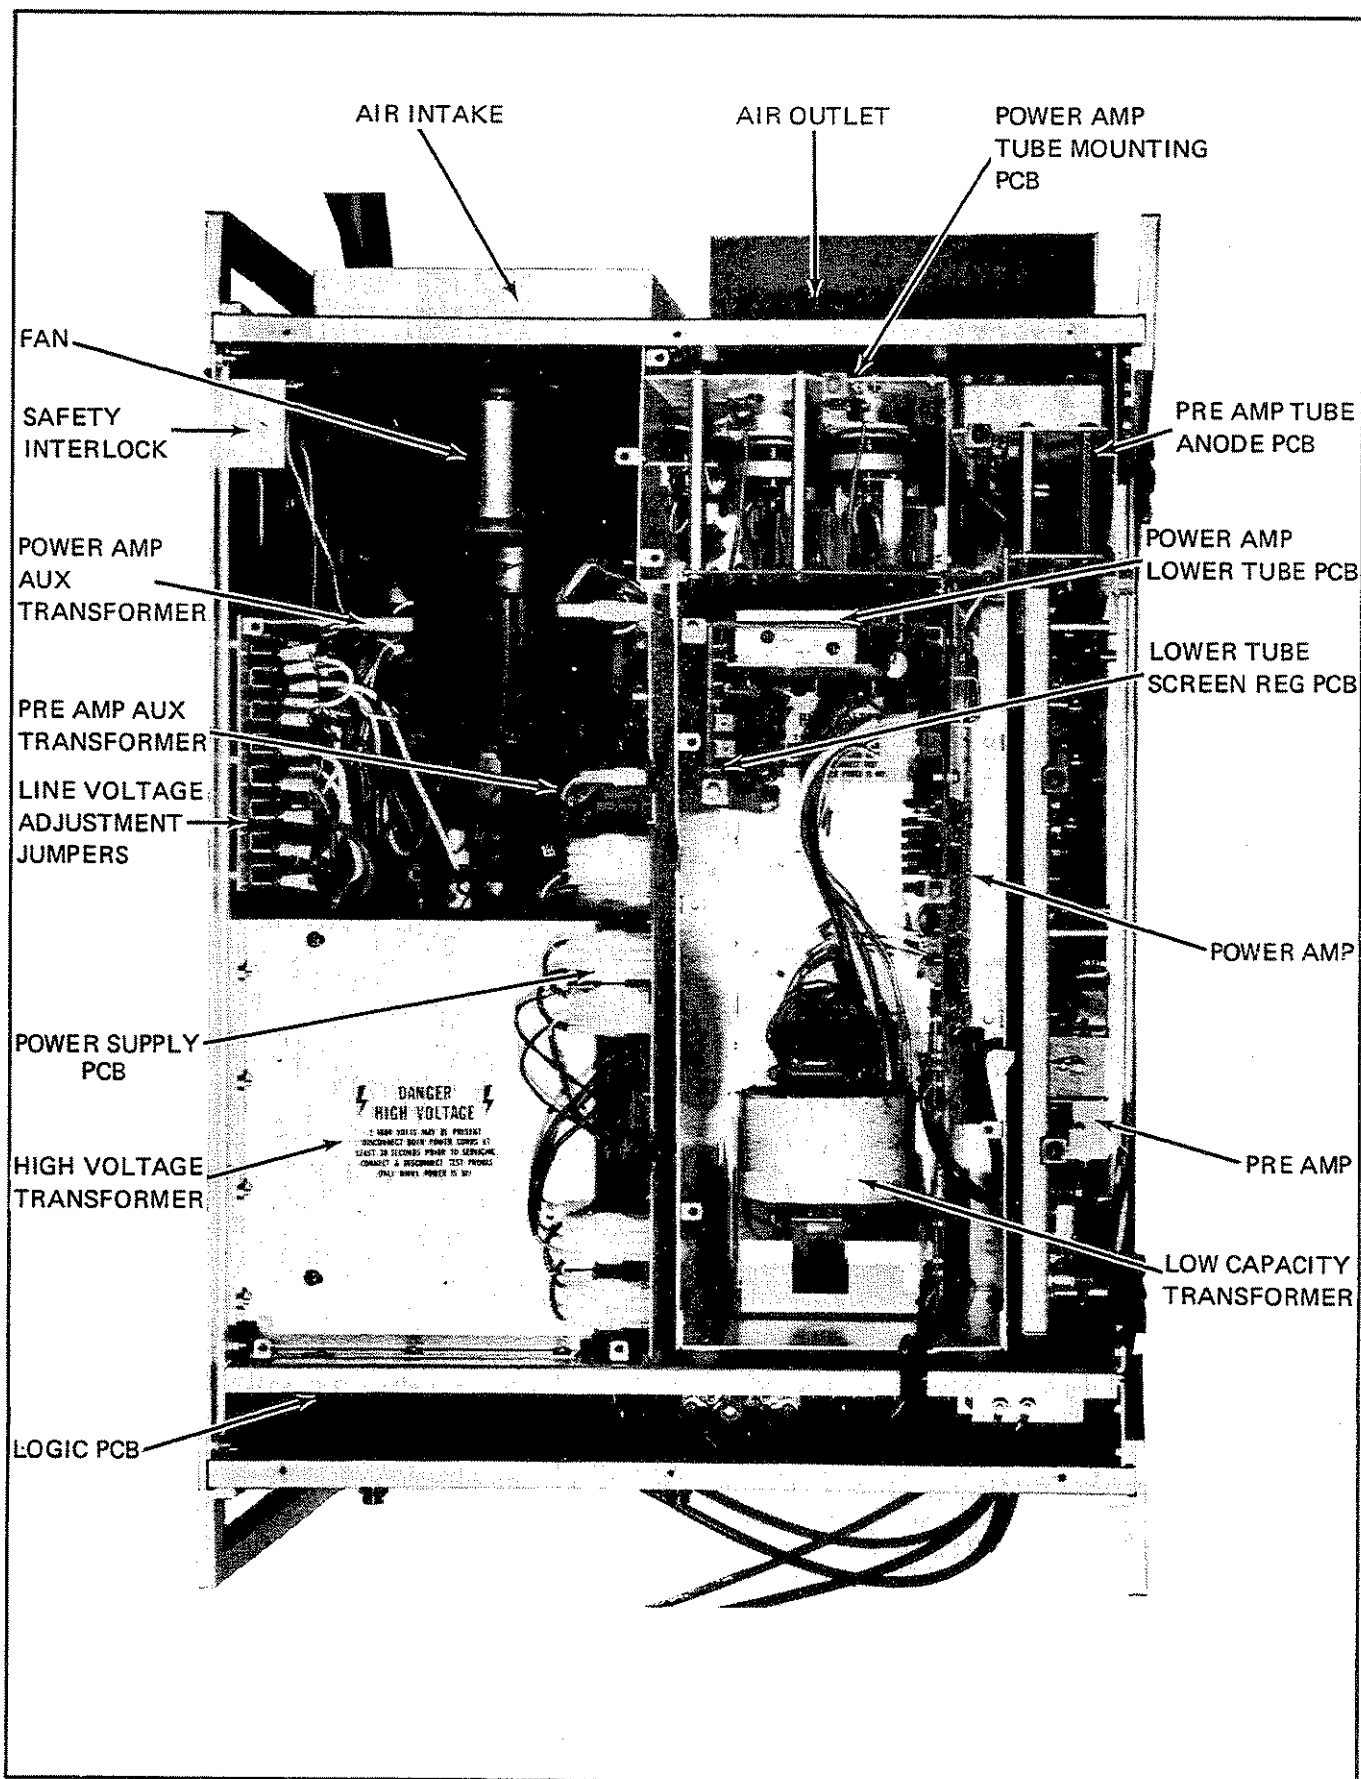
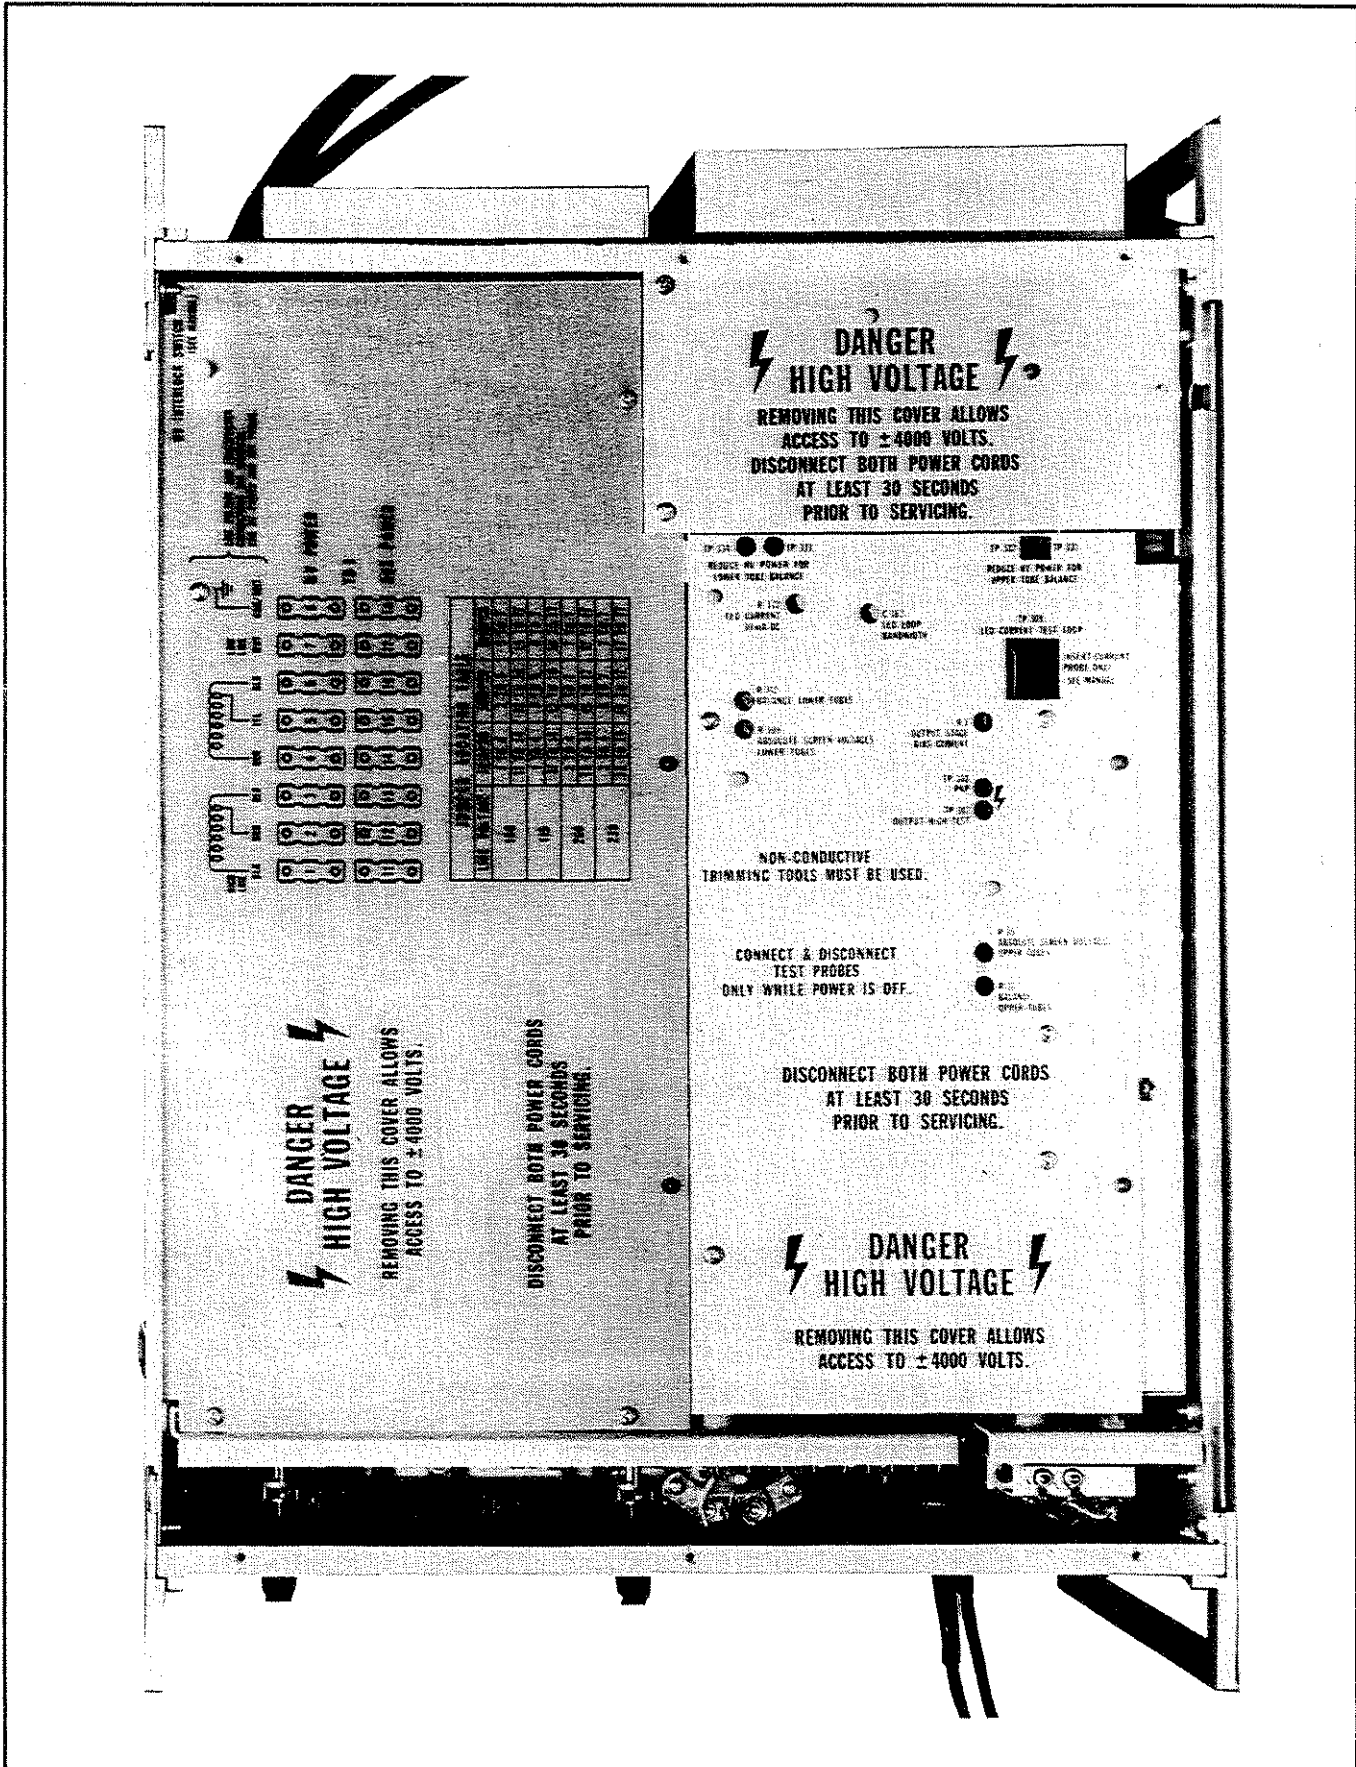

Figure 4-4. INTERNAL LAYOUT
Figure 4-5. POWER AMPLIFIER ADJUSTMENT PORTS
4.46. The 5205A Calibration procedure should be performed at least every 90 days or any time that a component is replaced. The recommended test equipment and accessories are listed in Tables 4-1 and 4-2. The internal layout is shown in Figure 4-4 while the test point and adjustment locations for the Power Amplifier, Preamplifier and Logic pcb are shown in Figures 4-5, 4-6 and 4-7 respectively.